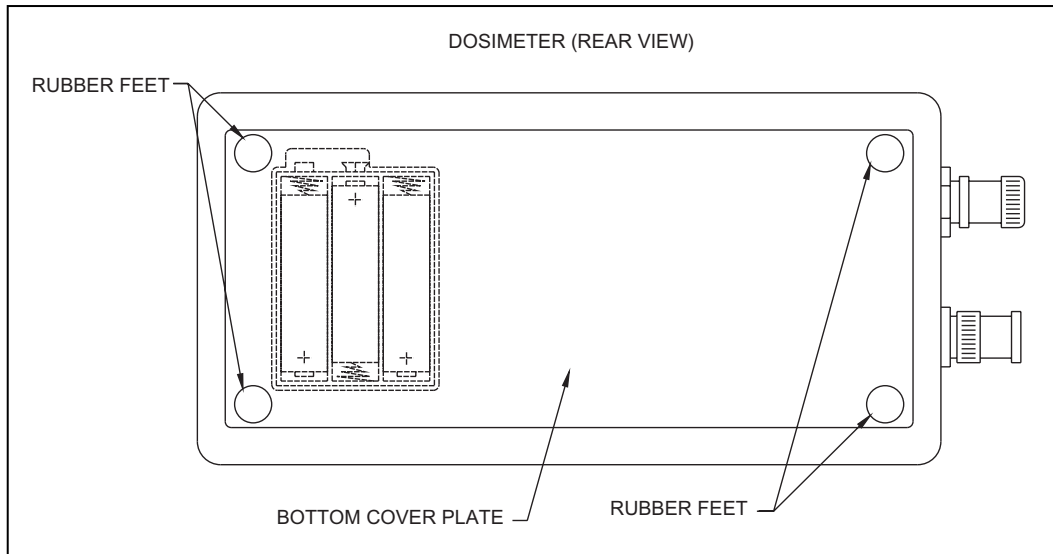

Figure 4-1. The Model 35050A Dosimeter Battery Replacement
Use the following procedure to replace the battery pack in the Model 35050A Dosimeter and refer to Figure 4-1.
6. Install the battery pack back into the instrument with the output terminals facing the direction of the notch cutout provided for easy replacement (see Figure 4-1).